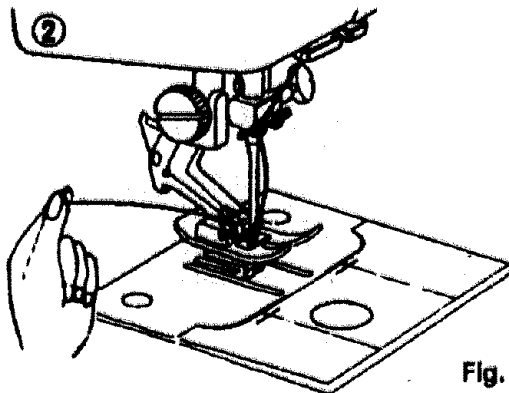

Fig. 2
2. Bring bobbin thread up by pulling upper thread. (Fig. 2)